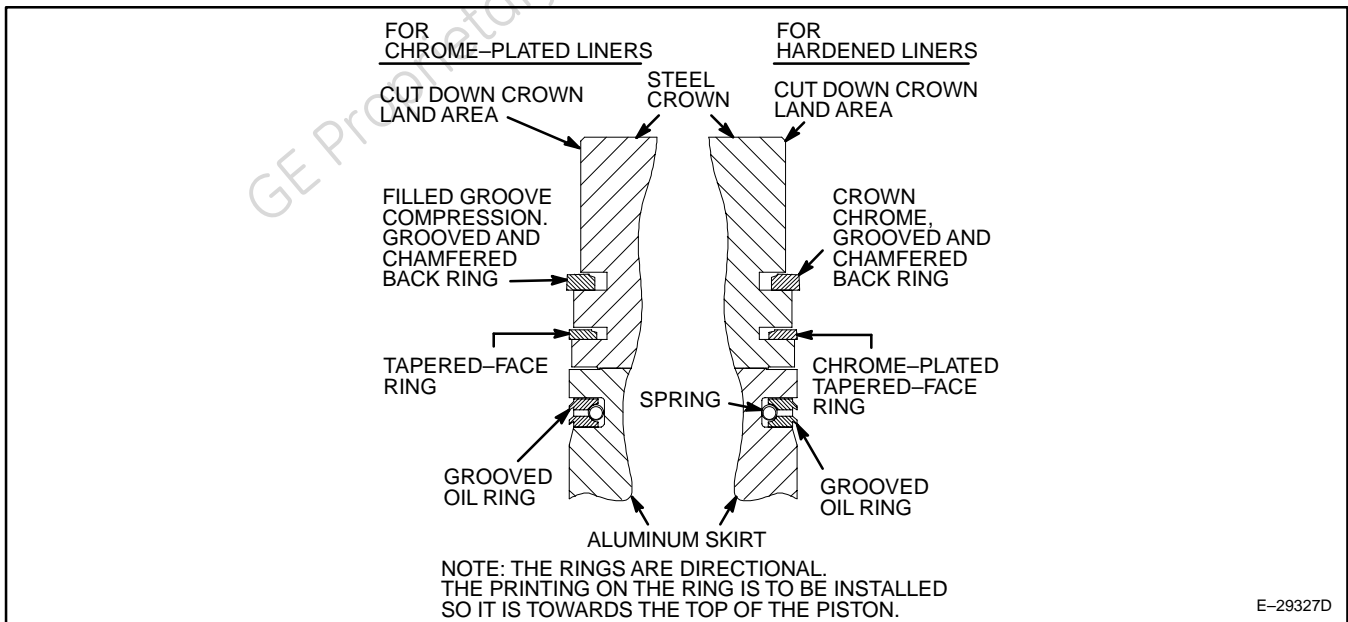

Figure 24. Piston Ring Details.
4. Install the two (2) compression rings in their proper grooves and as indicated by their markings. The printing on the ring MUST be installed so it is towards the top of the piston (Figure 24).